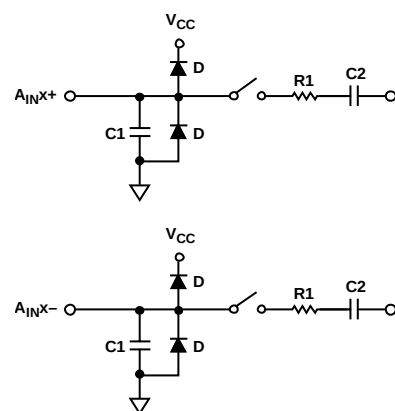

Figure 33. Equivalent Analog Input Circuit, Conversion Phase—Switches Open, Track Phase—Switches Closed
Figure 33 shows the equivalent analog input circuit of the AD4682 and the AD4683. The four diodes (D) provide ESD protection for the analog inputs. Ensure that the analog input signals do not exceed the supply rails by more than 300 mV. Exceeding the limit causes these diodes to become forward-biased and start conducting into the substrate. These diodes can conduct up to 10 mA without causing irreversible damage to the devices.
The C1 capacitors in Figure 33 are typically 3 pF and can primarily be attributed to pin capacitance. The R1 resistors are lumped components made up of the on resistance of the switches. The value of these resistors is typically about 200 Ω . The C2 capacitors are sampling capacitors of the ADC with a capacitance of 15 pF typically.